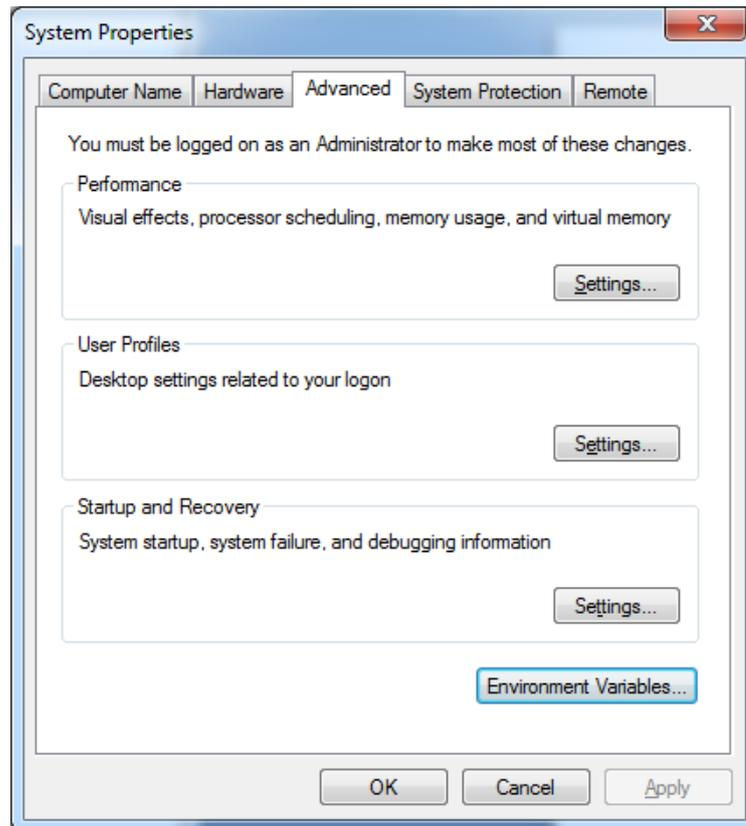
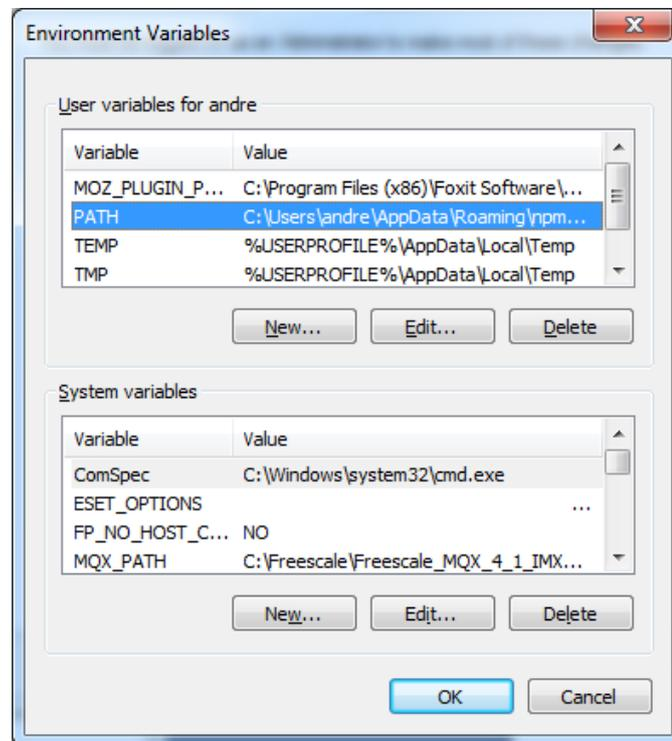

Figure 18 - System Properties in Windows
Figure 19 - Environment Variables in Windows
- To permanently add MinGW to PATH open System properties by (this applies for Windows 7) right clicking on Computer in an Explorer window and then select Properties. Click “Change settings” and then the Advanced tab as shown in Figure 18. Click on the “Environment Variables” button and edit the PATH variable as shown in Figure 19.
- a. Click the "New" button below "System variables" as seen in Figure 19.